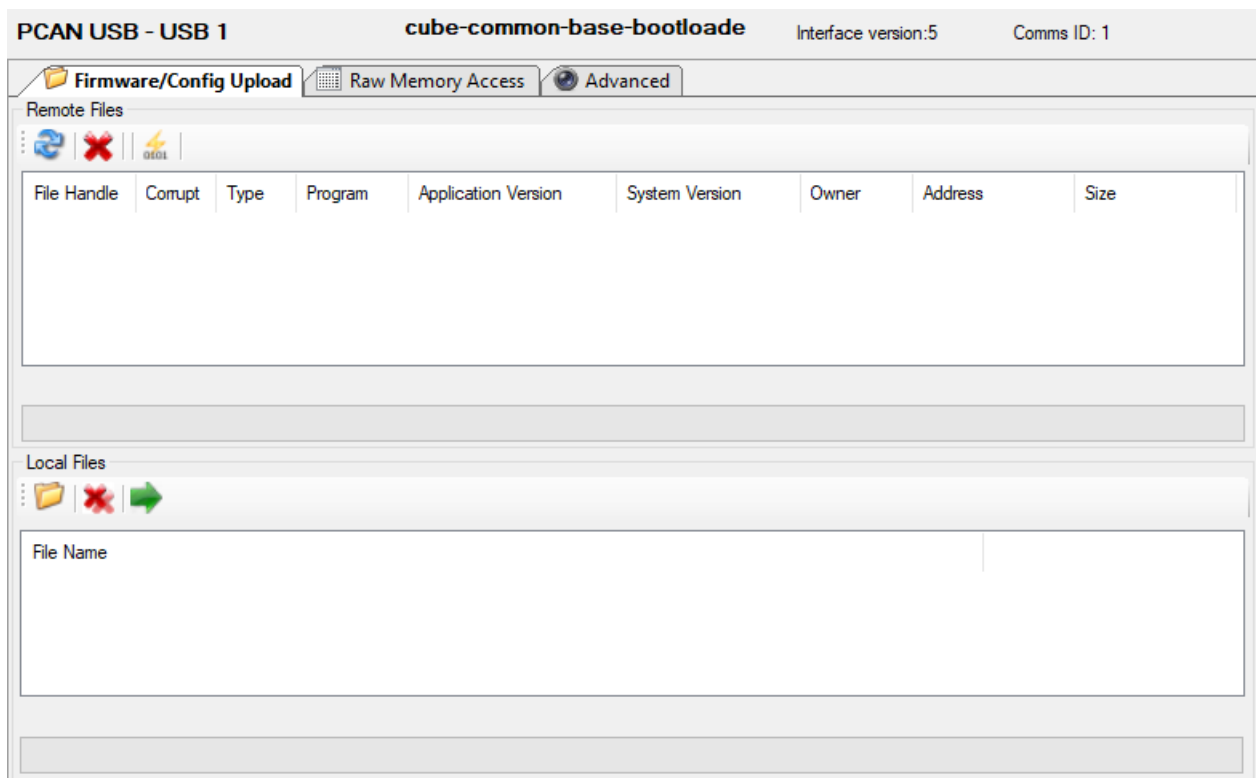

Figure 4: Firmware/Config Upload UI
Navigate to the “Firmware/Config Upload” tab. The user interface (UI) is shown in Figure 4.